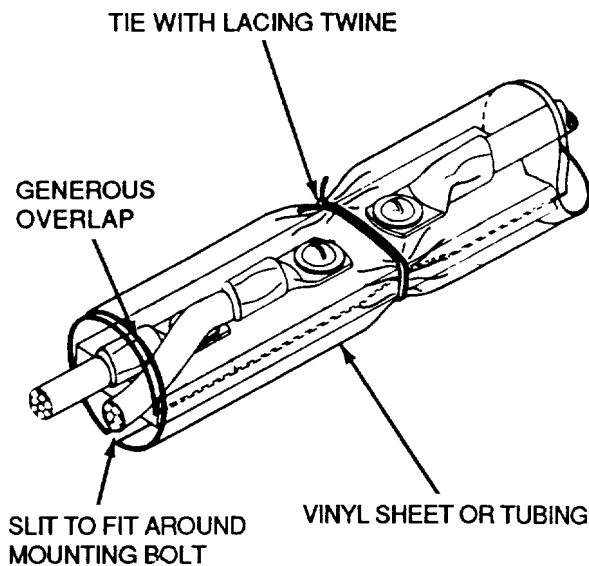

Figure 3. Vinyl Tubing Around Bus Bar
22. In conjunction with the previous steps, bus bars can also be protected by slitting a piece of vinyl tubing or suitable substitute with comparable dielectric characteristics, and wrapping it around the bus bar after all connections are made and coatings applied. Select tubing which has large enough diameter to permit a generous overlap when tying it in place (Figure 3).